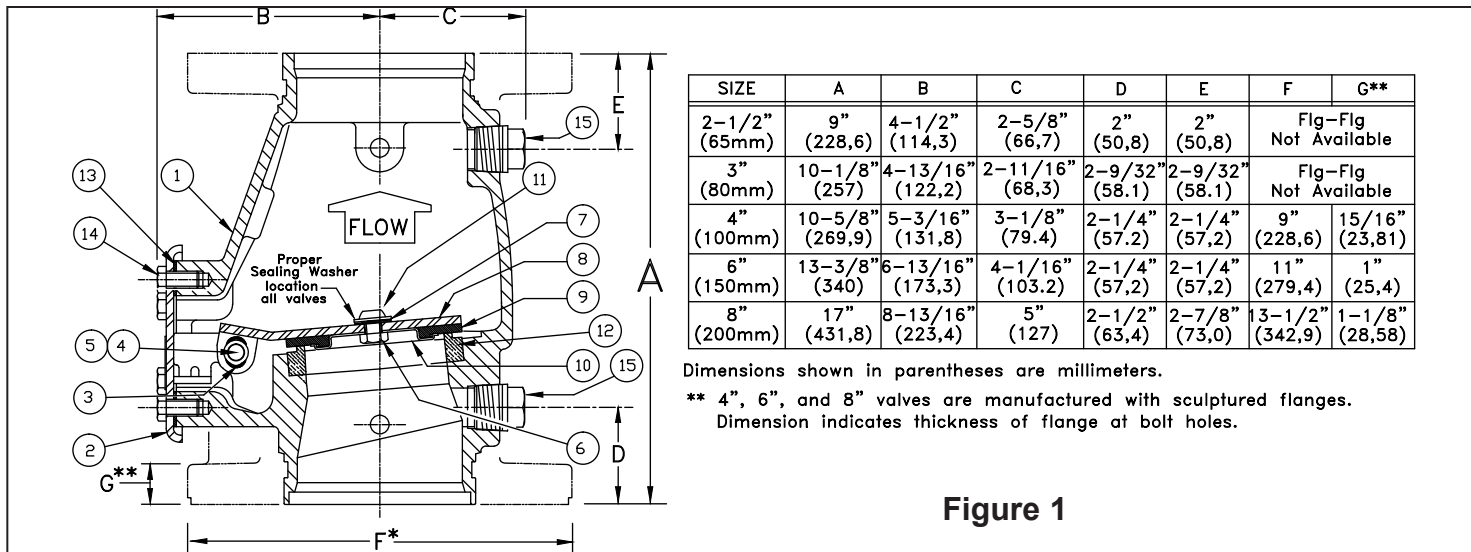

Figure 1
(Refer to Figure 1)
2. To remove clapper rubber (9):
- a. Use the appropriate wrenches to loosen and remove the button-head socket screw (11), hex nut (6), sealing washer (7), and rubber retainer (10).
- b. Remove the clapper rubber (9) for inspection. If the clapper rubber shows signs of wear, such as cracking, cuts, or excessively deep grooves where the rubber contacts the water seat, replace the rubber.
3. To re-install clapper rubber (9):
- a. Place the clapper rubber (9) over the center hub of the rubber retainer (10).
- b. Position the retainer (10) (with rubber in place) against the clapper (8) as shown in Figure 1.
- c. Replace and tighten the button-head socket screw (11), sealing washer (7), and hex nut (6). The sealing washer (7) and hex nut (6) must be located on the top side of the clapper as shown in Figure 1. Do not over-tighten.
4. To remove clapper (8), and/or hinge pin (4):
- a. Remove the hinge pin retaining rings (5) to free the hinge pin (4) for removal. After the hinge pin (4) is removed, the clapper (8) can be removed.
5. To re-install clapper (8), and/or hinge pin (4):
- a. Verify that the clapper rubber (9) is in good condition and that it is properly installed.
- b. Position the clapper (8) with the elongated hinge holes aligned between the holes of the hinge bracket welded inside the cover (2). The system (top) side of the clapper (8) must face the direction indicated by the flow arrow stamped inside the cover (2).
- c. Insert the hinge pin (4) through the holes at one end of the hinge assembly. Continue to push the hinge pin (4) through the holes at the remaining end of the hinge assembly.
- d. Re-install the hinge pin retaining rings (5).
- a. Verify that cover gasket (13) is in position and in good condition.
- b. Slide the cover/clapper assembly (2-11) into the Swing Check Valve so that the clapper rubber (9) contacts the water seat (12).